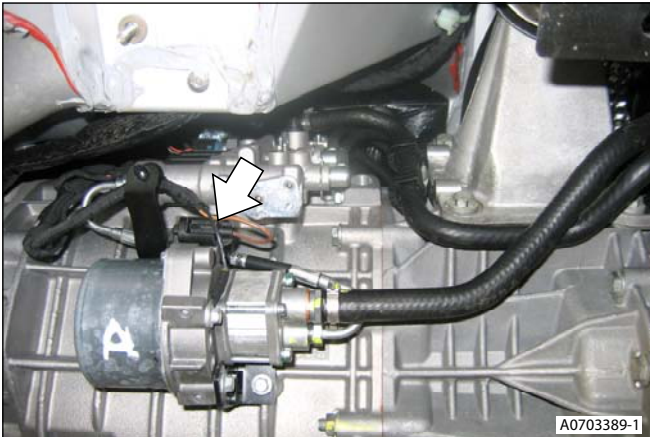

Figure 4
27. Disconnect pump multiplug (see Figure 4).